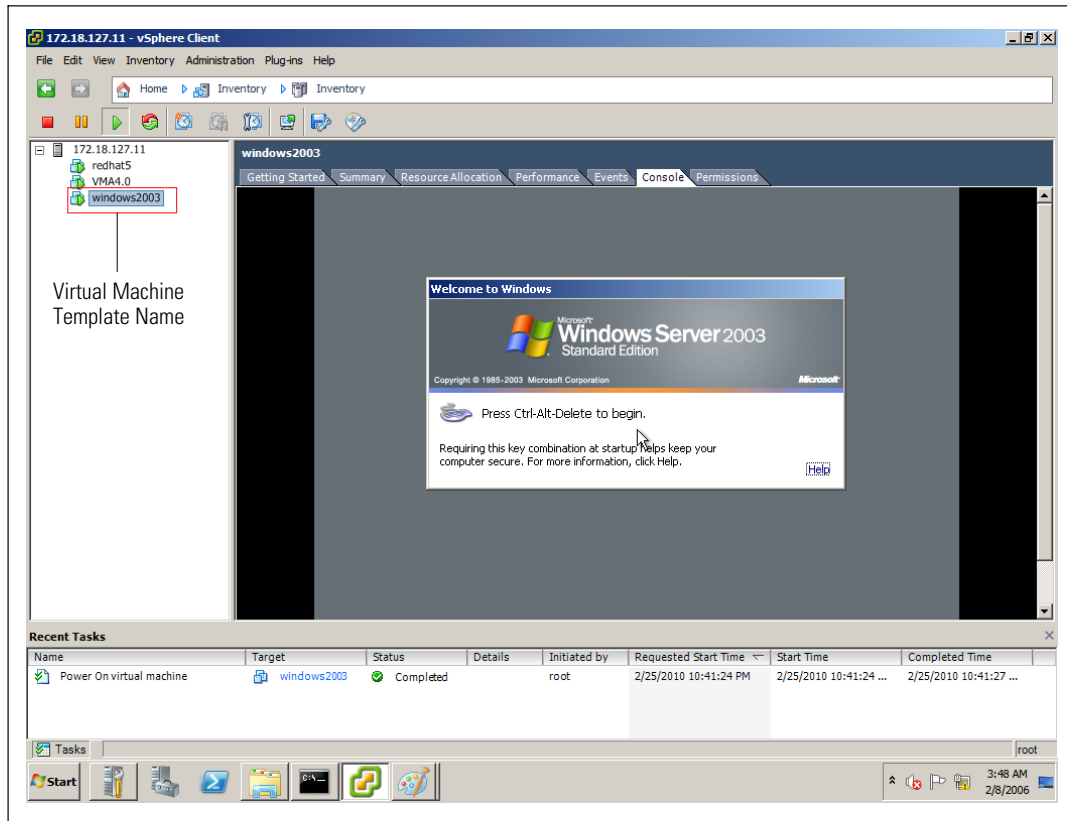

Figure 107. Console Window
- 1 On the VM Templates page, select the virtual machine template name and then select the **Console** tab. The virtual machine console displays (see Figure 107).